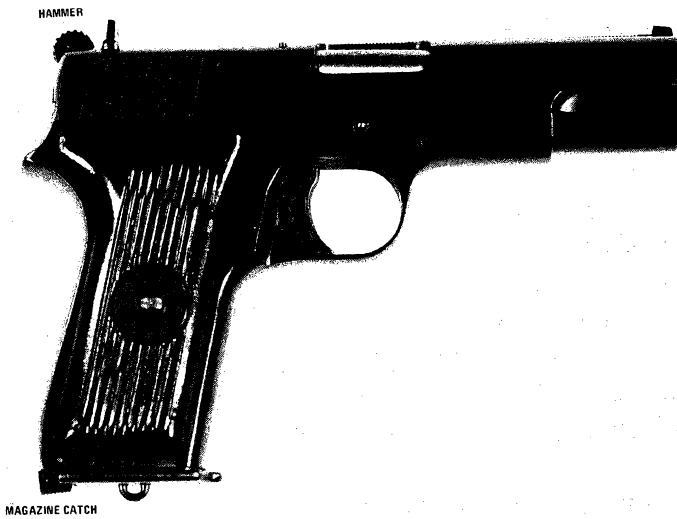
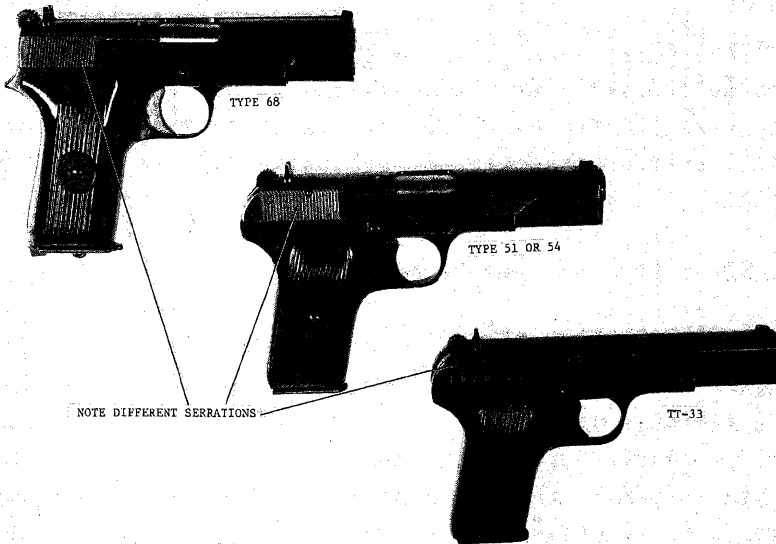

Figure 18. North Korean Type 68 pistol.
Figure 19. Comparison of Type 68 and
a. The North Korean 7.62-mm Type 68 pistol (fig 18) is a product improvement on the Soviet TT-33 pistol (para 13 to 18). The Type 68 when contrasted to the TT-33 appears shorter and bulkier (fig 19); internally, the improvements are even more pronounced. The link system used to unlock/lock the barrel of the TT-33 is replaced by a simple cam similar to that of the Belgian M1935 HiPower pistol. There are other minor changes which improve reliability and handling, such as the relocated magazine catch and improved method of retaining the firing pin.
trigger. The pistol will fire one shot each time the trigger is pressed. When the last round is fired, the slide will remain open. Remove the magazine by pressing the magazine catch (fig 18) rearward; pull the magazine out of the pistol. Close the slide by pressing down on the slide stop or, after removing the magazine, pull the slide slightly to the rear and release it.